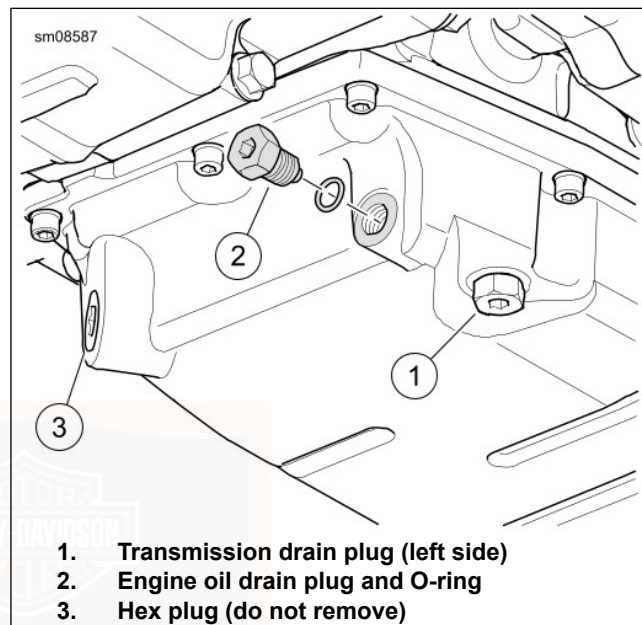

Figure 56. Oil Pan
3. See Figure 56. Remove the oil drain plug (2) and O-ring. Allow oil to drain completely.